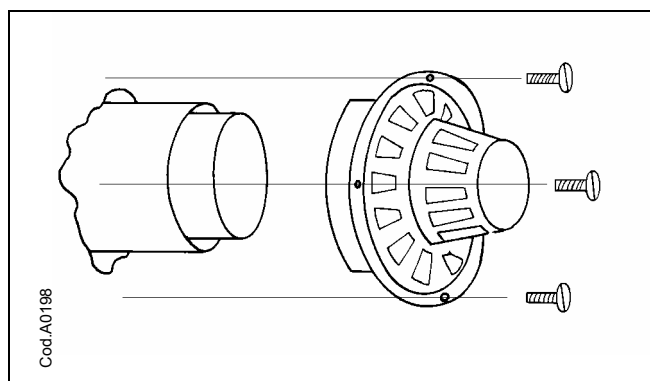

Figura 9
10. Mount the vent cap on the flue pipe and fix it with the three self-tapping screws provided. (see Figura 9).